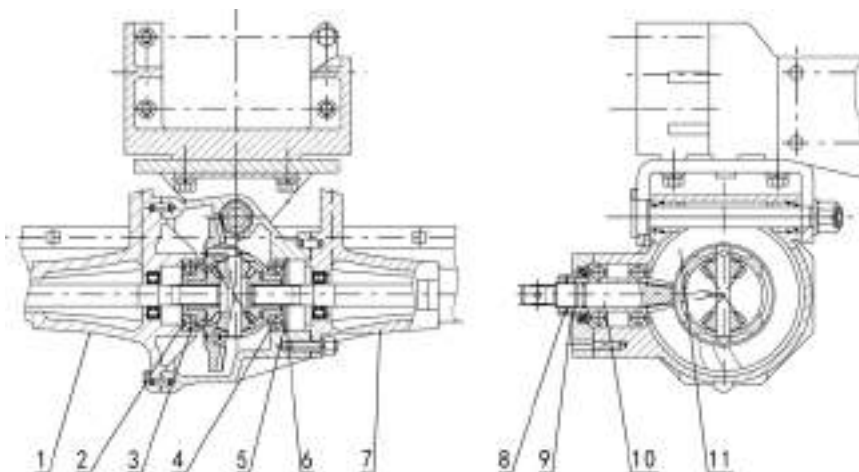

Fig. 6-6 Front-driving system adjusting
During assembling, put some washers (2) and (5) between the right half axle sleeve (1) and bearing 6008 (3), and between bearing 6008 (4) and fixing ring (6) to keep the backlash of the central transmission gear pair (driving conic gearwheel 10 and driven gearwheel 11) within 0.15~0.20mm, and ensure axial movement of the differential device does not happen to the differential device bearings, and differential device assembly works smoothly. Turn nut (9) to ensure its axial movement does not happen to the driving conic gearwheel and works smoothly, and then fasten the lock plate (8). (fig..6-6)
PTO neutral position is shown in fig.6-6. Adjust as follows: firstly adjust PTO rocker arm 2 so that it is in neutral position, then adjust pull rod 3 to make the control lever 1 as fig.6-6.